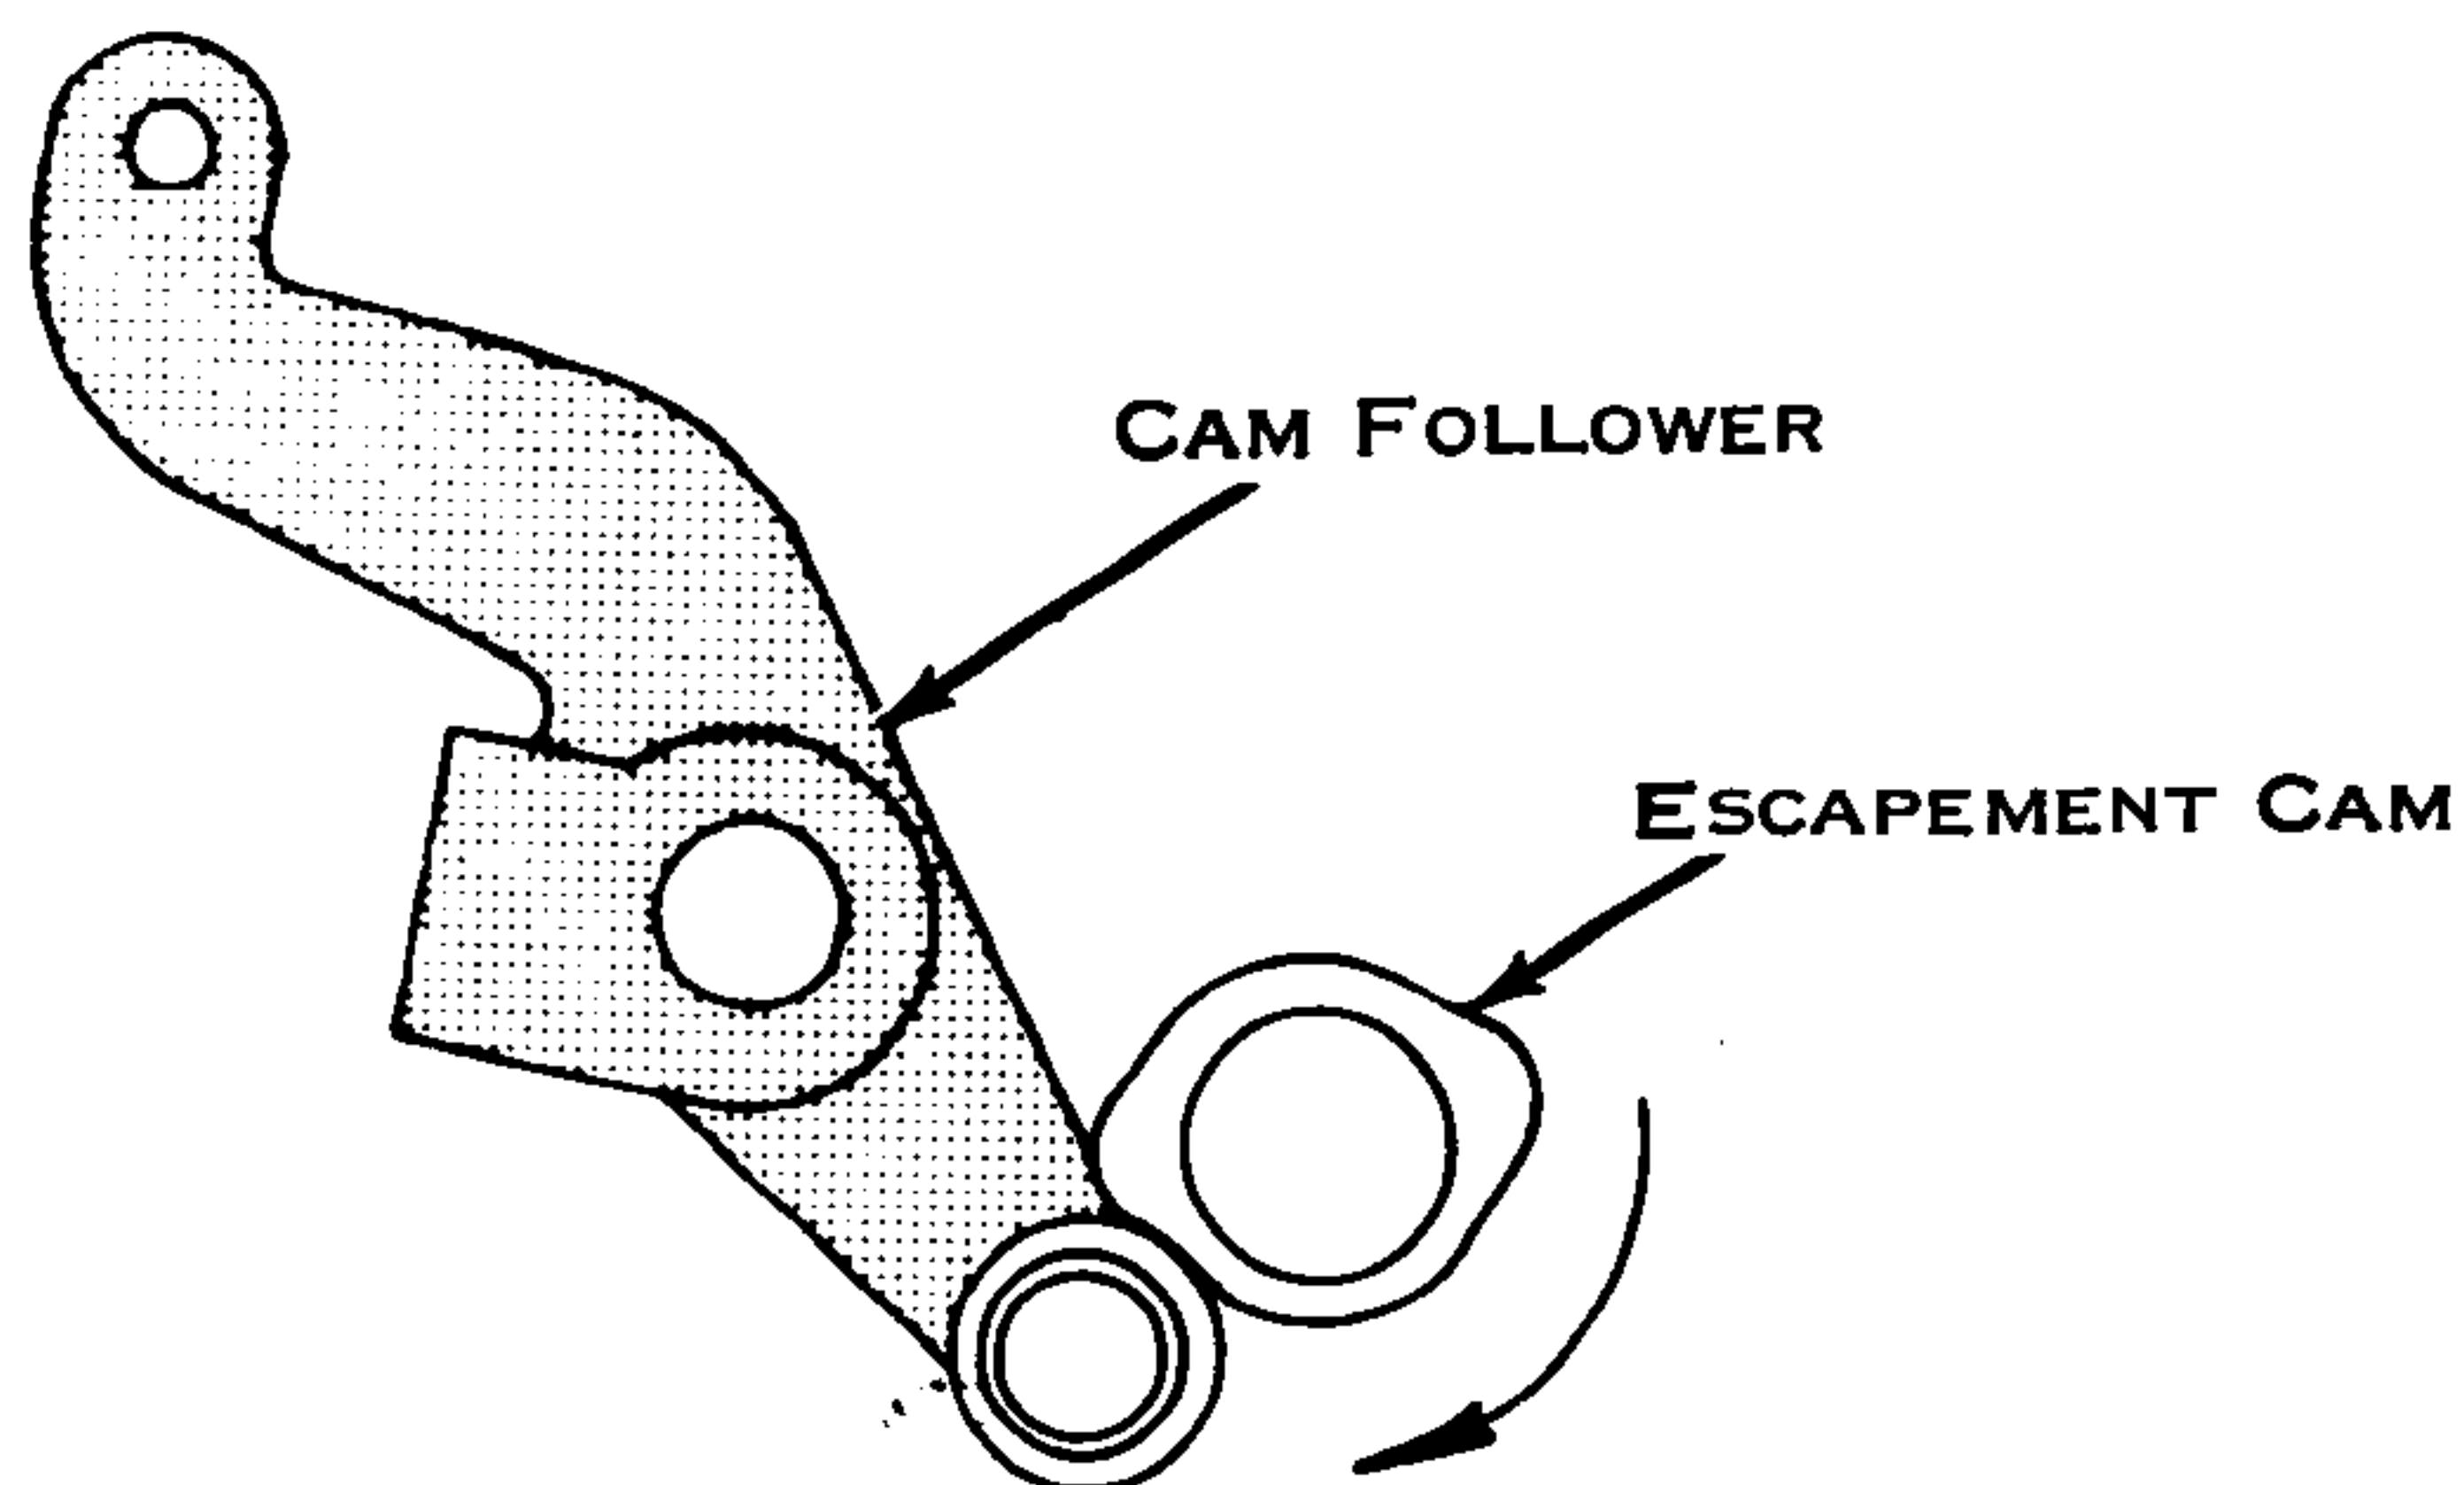

Figure 151. Escapement Cam (New)
b. Escapement Timing (Fig. 151) - With the machine at rest, rotate the escapement cam so that the follower roller rests on the low dwell and just touches the back side of the cam. Position escapement cam against the spacebar interlock cam. CAUTION - Escapement should not occur prior to printing.